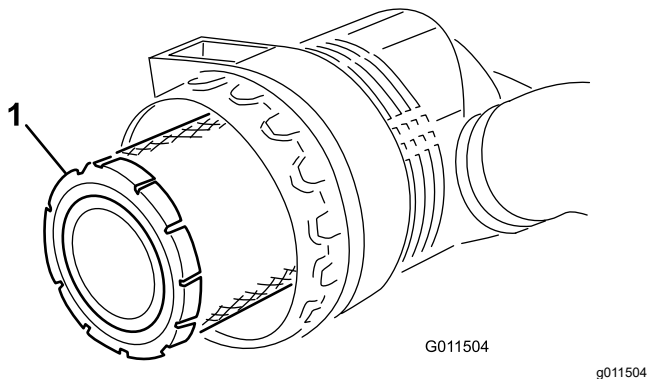

Figure 86
5. Remove and replace the primary filter (Figure 86).